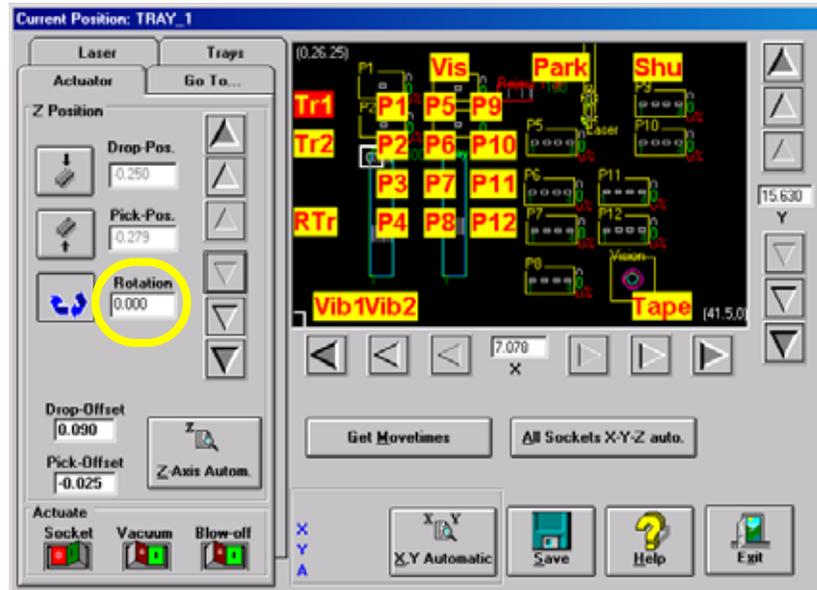

Figure 3-39—Rotation set at 0.000 at Tr1
- 3c) Enter the rotation value **0.000**. See Figure 3-39.